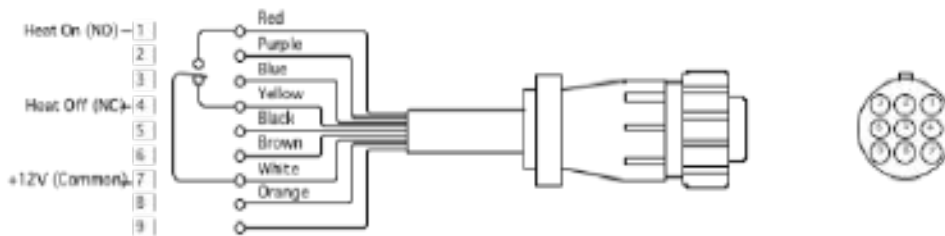

Fig. 4
3.1 **HS2500R2** - Make sure that the on/off control is properly connected to the remote jack on the side of the unit. (Fig. 4). As shown the 12V signal is supplied at pin 7. This must be connected to the common pole of the relay. The normally open contact of the relay must be connected to pin 1 (Heat On) and the normally closed contact should be connected to pin 4 (Heat Off). When the contact is closed, the HEAT ON light will be on. When it is open, the light will be OFF.